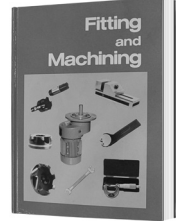

Fig. 5.18
2. Adjust the speed knob (B in Fig. 5.17) until the correct speed is selected and displayed in the digital Display (C in Fig. 5.18)